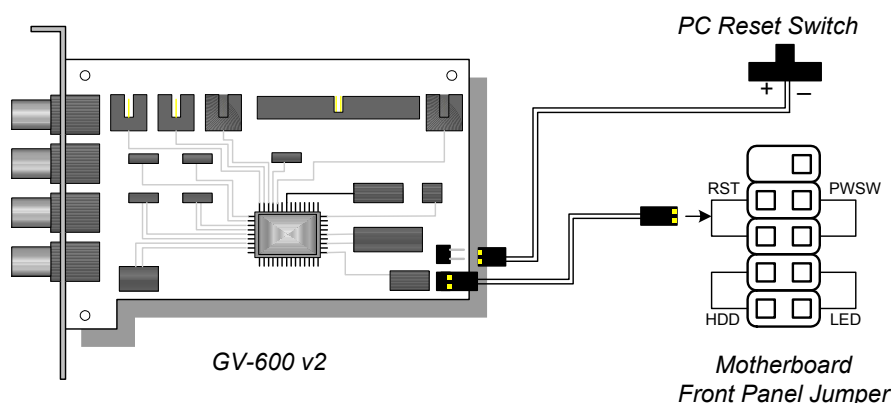

Figure 1-3 Connecting the watchdog to motherboard
1. Connect the jumper wire, supplied with the GV card, between Motherboard Reset Pins jumper on the GV card and the Reset pins on the host motherboard, as shown in figure 1-3.